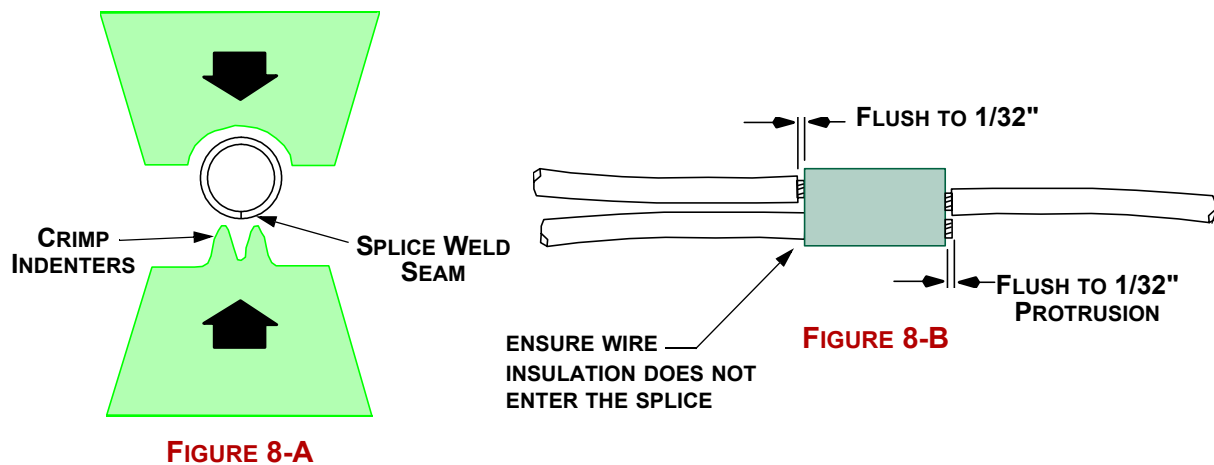

FIGURE 8 - CRIMPING PARALLEL SPLICE CONNECTORS
- Step 1. Insert the stripped wires into the splice. Ensure that overlapping wires within the splice are positioned parallel to one another without any kinking or displacement of the individual strands. Ensure that the wires are pushed fully into the connector so that the wire insulation butts against the end of the connector. Ensure that the wire insulation does not enter the connector (see Figure 8-B).
- Step 2. Open the crimping tool jaws and insert the splice/wire assembly. Centre the connector in the crimp jaws, ensuring that the splice connector weld seam is positioned toward the crimp indenters (see Figure 8-A).
- Step 4. Ensure that the portion of stripped wire protruding from the connector after crimping is not more than 1/32" (see Figure 8-B).